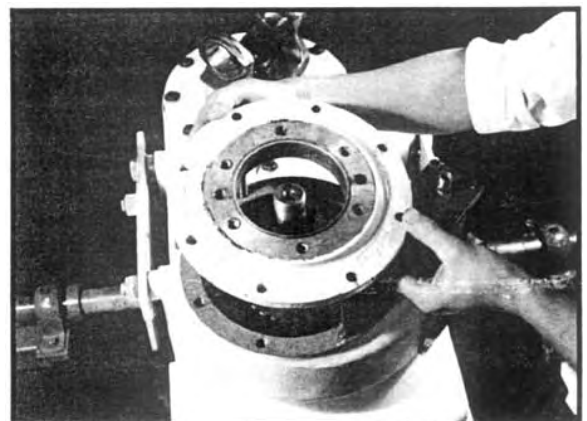

Fig 62
11. Install the front bearing carrier using a new gasket. See Figure 62. Be sure that the work "TOP" is toward the top of the transfer case as installed in the vehicle. Install the (8) cap screws and washers and torque to specification.